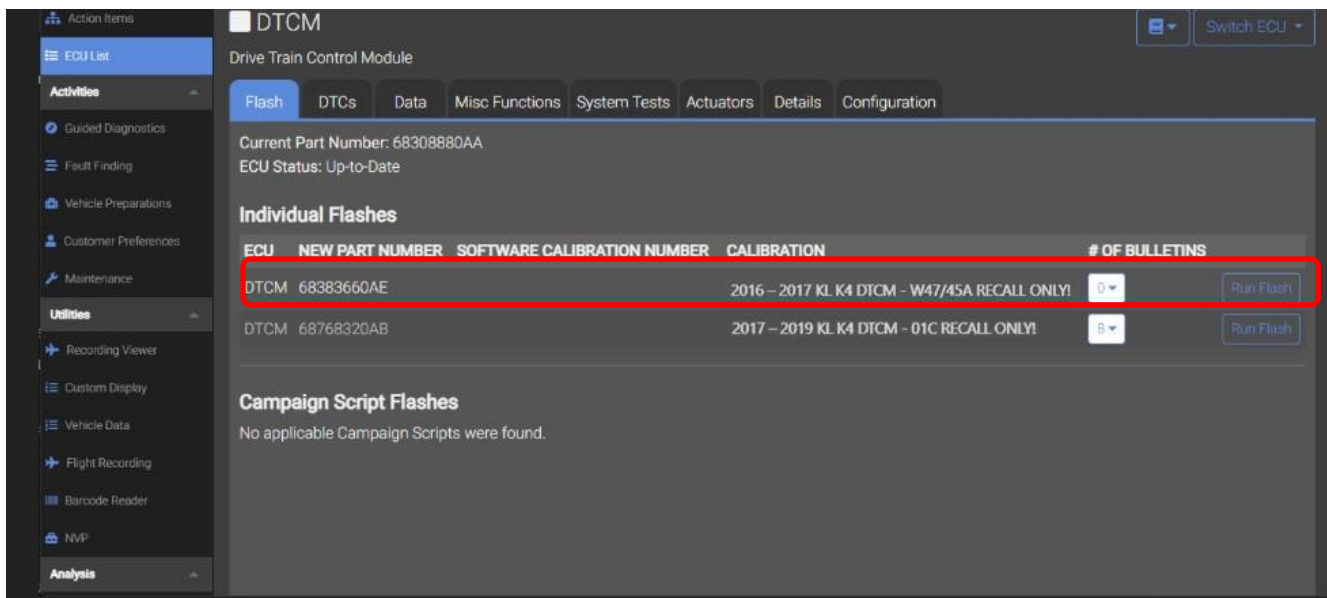

Figure 1 – Select Part Number for 2016-2017 Models
- From the DTCM tab, select the W47/45A DTCM flash part number (For 2016-2017 models, see Figure 1).